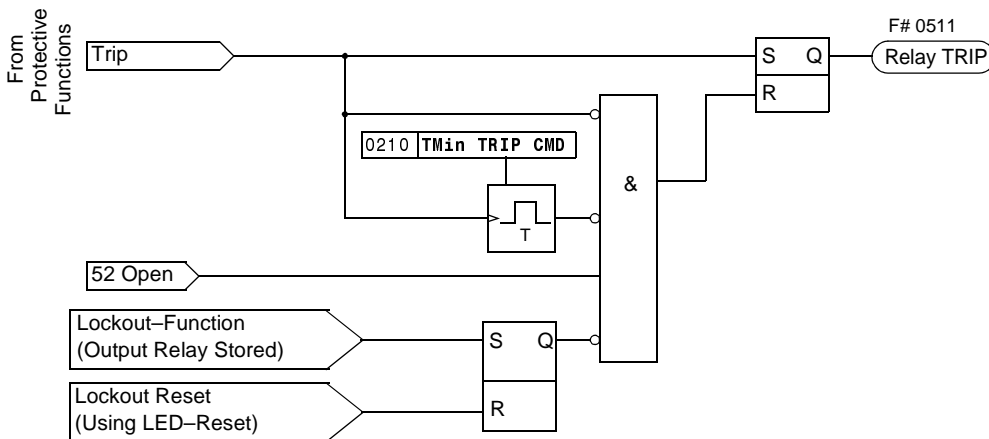

Figure 6-70 Terminating the Trip Signal
- All trip signals from a protection function hold the 0511 Relay TRIP function, and start the minimum trip signal duration timer (set at address 0210 **Tmin TRIP CMD**, see Figure 6-70). This trip signal duration timer ensures the trip signal is transmitted to the circuit breaker for a sufficient amount of time, even if the function which issued the trip signal drops out quickly. The trip signal is only terminated after all protection functions drop out AND the minimum trip signal duration expires.